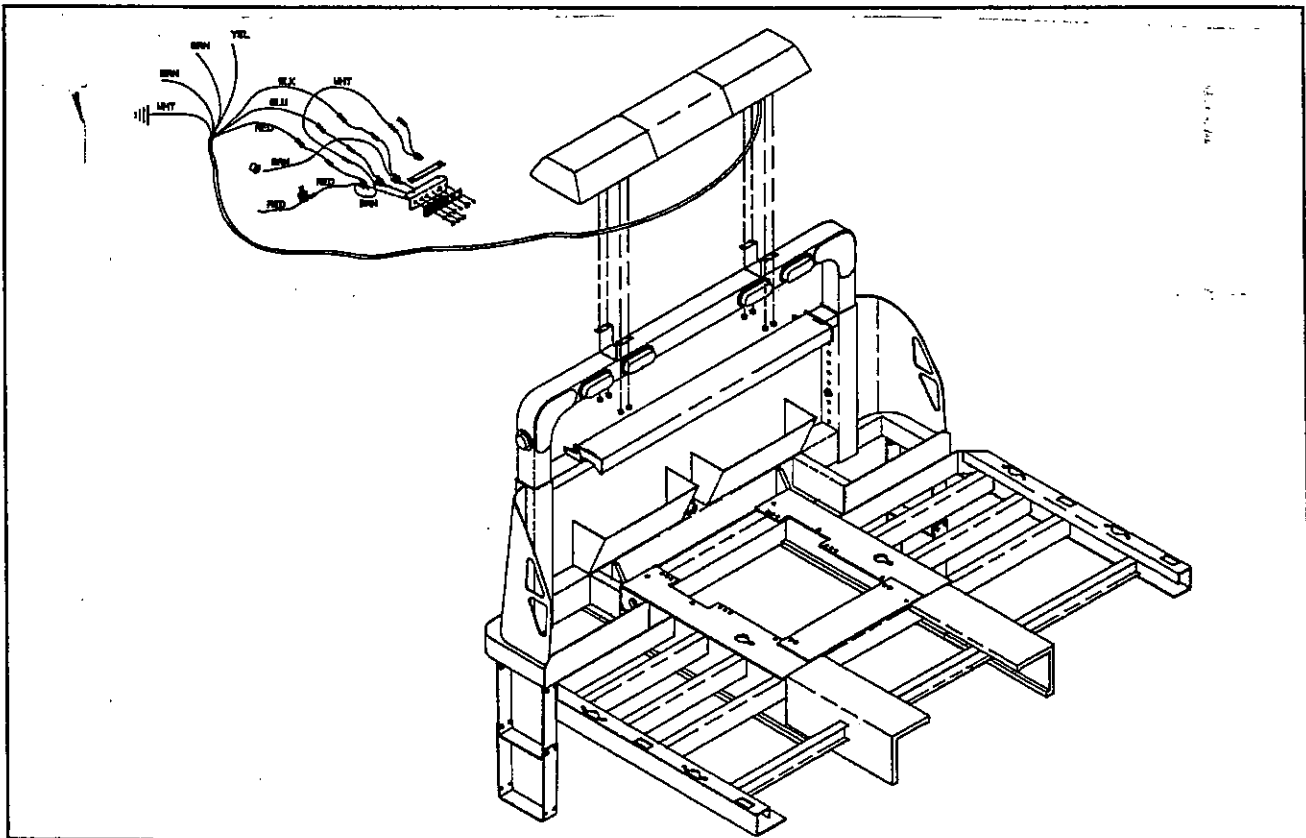

Figure 4-9 Light Bar Installation
**4-8.1** Drill the 13/16" diameter hole in the head rack top tube, on the top side only. The centerline of the hole should be 9/16" from edge of the tube, directly beneath the wire on the light bar. (See Figure 4-9)
**4-8.2** Mount the emergency light bar according to the instructions that are supplied with the light kit. (See Figure 4-9)